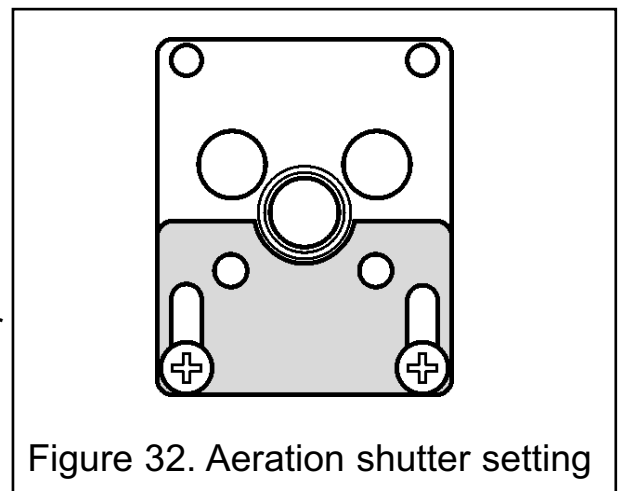

Figure 32. Aeration shutter setting
1. The aeration shutter is factory set. It is important to ensure that the aeration setting is correct (See figure 32).